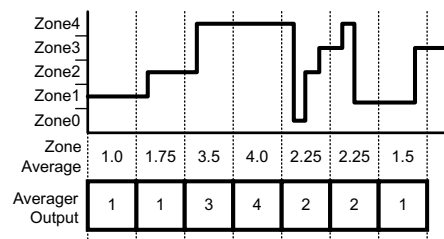

Figure 42. Averager Calculation
The ALS Averaging Time is the time over which the Averager block collects samples from the A/D converter and then averages them to pass to the discriminator block (see Figure 42). Ambient light sensor samples are averaged and then further processed by the discriminator block to provide rejection of noise and transient signals. The Averager is configurable with 8 different averaging times to provide varying amounts of noise and transient rejection (see Figure 35). The discriminator block algorithm has a maximum latency of two averaging cycles, therefore the averaging time selection determines the amount of delay that will exist between a steady state change in the ambient light conditions and the associated change of the backlight illumination. For example, the A/D converter samples the ALS inputs at 16kHz. If the averaging time is set to 800ms, the Averager will send the updated zone information to the discriminator every 800ms. This zone information contains the average of approximately 12800 samples (800ms × 16kHz). Due to the latency of 2 averaging cycles, when there is a steady state change in the ambient light, the LED current will begin to transition to the appropriate target value after approximately 1600ms have elapsed.
- The Averager will always round down to the lower zone in the case of a non-integer zone average (1.2 rounds to 1 and 1.75 also rounds to 1). Figure 42 shows an example of how the Averager will make the zone decisions for different Ambient conditions.